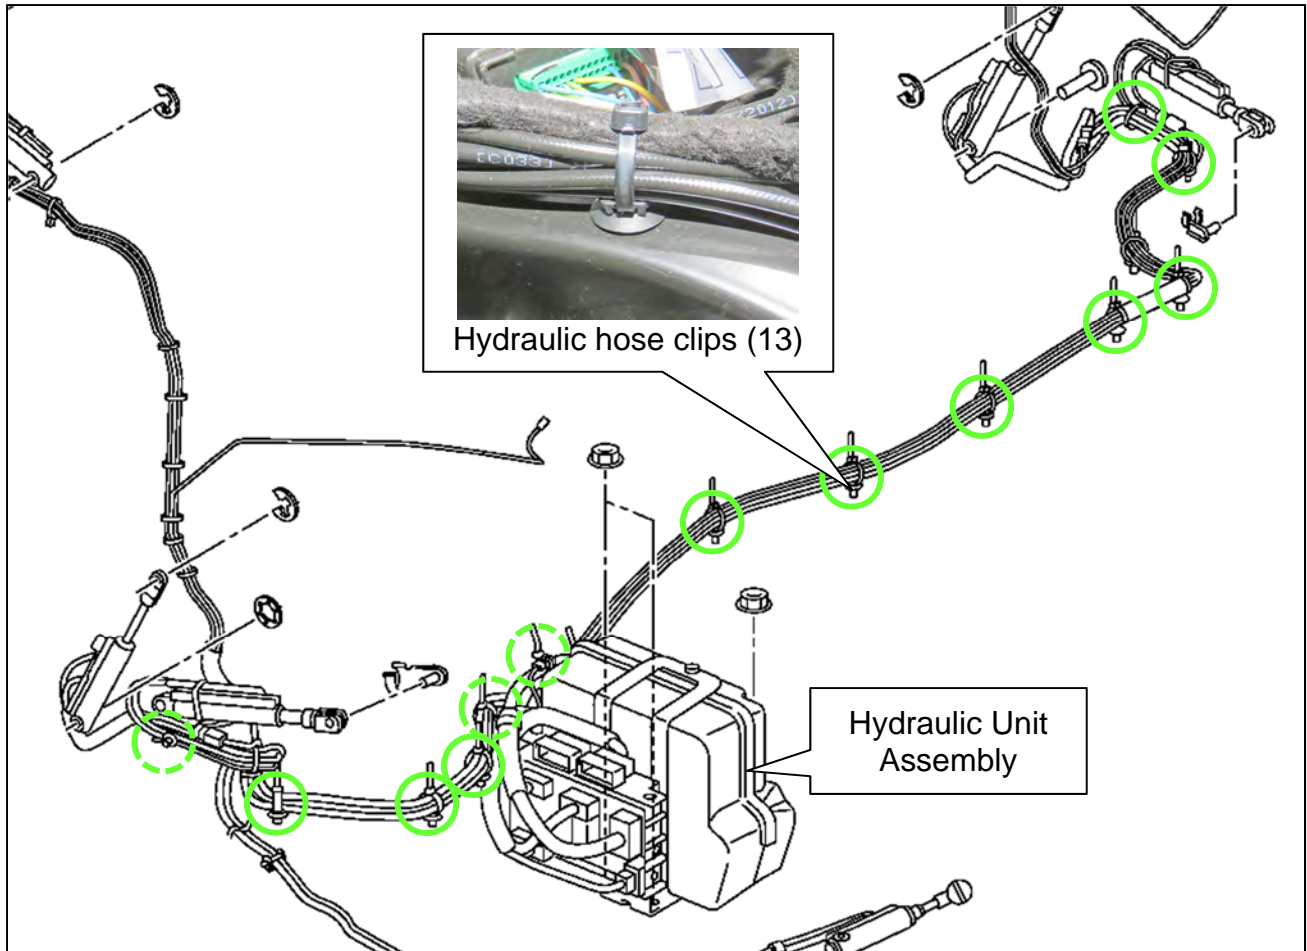

Figure 203
219. Detach the thirteen (13) hydraulic hose clips that connect the Hydraulic Unit Assembly to the soft top hydraulic actuators, that secure the hoses to the vehicle, where shown in Figure 203.